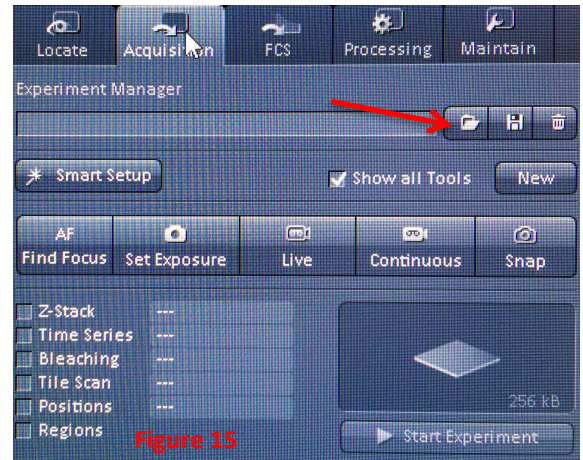
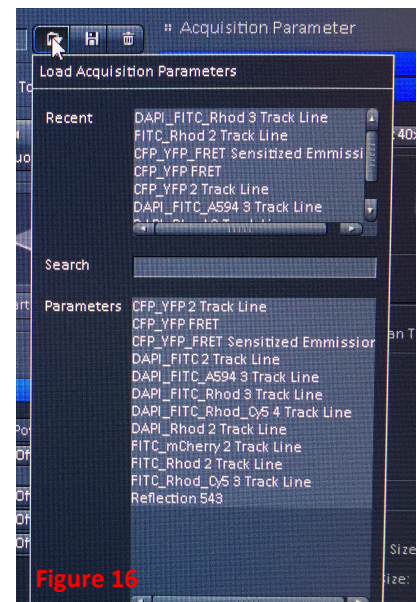
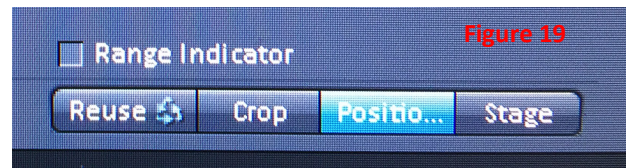

Figure 15
Figure 16
Figure 19
1. Once you've found your sample through the eyepieces, switch back to Acquisition. There are many configurations stored in the software. To see the list, go to Experiment Manager (at the top left of the Acquisition window) and click on the file folder (arrow, figure 15) and you will get a dropdown menu of the available configurations (figure 16). Chose the configuration by clicking on it. If you are using the argon laser, you will now get a pop-up asking if you want to switch it on. Click yes. If you put it on standby when you first opened the software, it will be ready for use within 1 minute. If you forgot to turn it to standby, you will need to wait 5–7 minutes before it will be ready for imaging.
3. The system has a sampling function called Set Exposure (figure 15) in which the system looks at your sample and sets all the parameters. Normally, Set Exposure will be used only when you know nothing about the fluorescence of your sample. It gives you a starting point on the settings, not usually where you will end.
- b. Below the image window is a button labeled Crop (figure 19). When you click on the Crop button, you will see a box on the screen. You can move the box and change the size of the box to determine the size and location of the area you will scan. After you place and size the Crop box, click Live (figure 15) and you will now scan the area you have selected.
- c. Next to the Crop button is a button labeled Stage (figure 19). Click the Stage button and then click anywhere in the image window, and, when you start scanning, the area you clicked will now be the center of the image. Note: the Crop and Stage functions will not work while you are actively scanning.
- a. When you are ready to adjust your image, click on Live scanning, then click on the Range Indicator tab (found below the image window, see figure 19). In Range Indicator, red indicates saturated pixels and blue indicates pixels below the limits of detection. Note: make sure that you have separated the channels — do not try to make these adjustments in 2D.
1. In the Experiment Manager window (figure 15), click on Tile Scan. This will open a new menu window under Multidimensional Acquisition (figure 24).